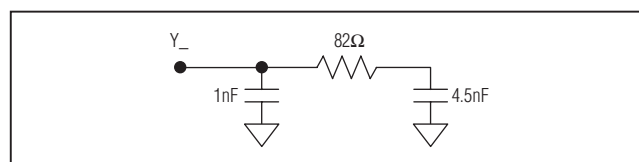

Figure 4. Test Load
**Note 1:** The panel models for different channels are illustrated in Figure 4.
Figure 4 shows the test load.